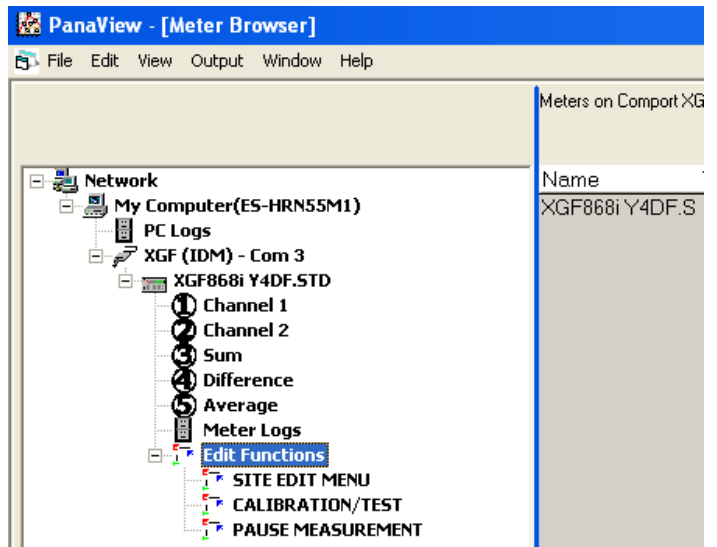

Figure 40: Menus in the edit functions option
2. Expand the *edit functions* option. The window now appears similar to that shown in *Figure 40 on page 55*.